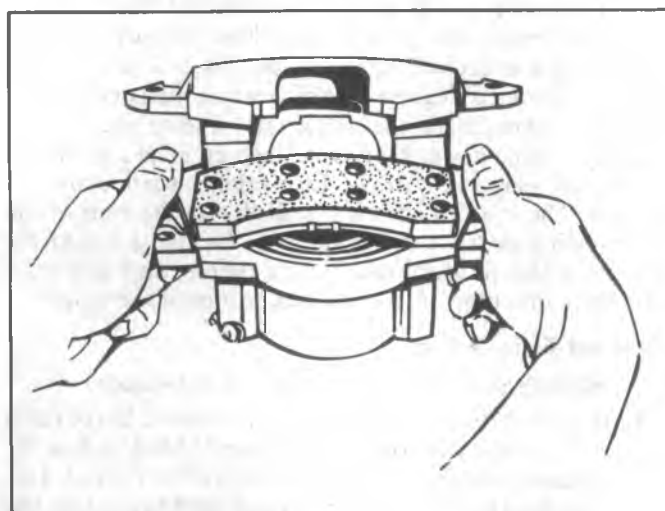

Fig. 5-27--Installing Inboard Shoe
- Position the inboard shoe and lining assembly (with spring attached) in the caliper so that the ear end of the shoe and lining is down and the bottom end up at an angle with the spring resting on the piston I.D. (fig. 5-27). Press down on both ends of the shoe until the shoe is in a flat position, resting on the piston. The